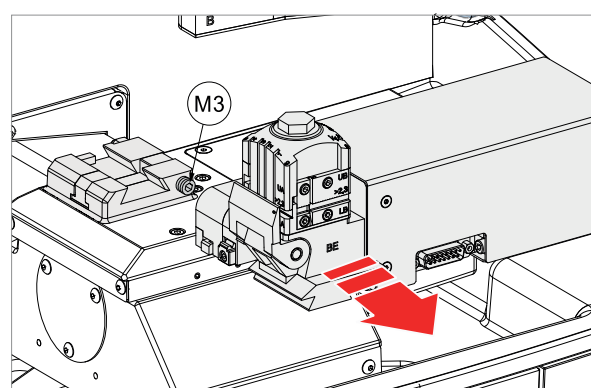

Fig. 140
- 5) Remove the clamp unit from its dovetail groove (Fig. 140).